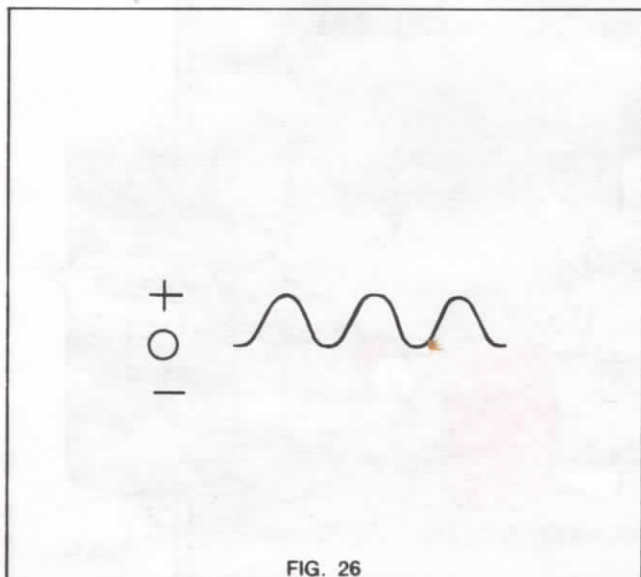

FIG. 26
- 7. Again, plug the line cord into the isolation transformer and observe the 'scope display. In the space provided, draw the display that appears on the 'scope. Your display should be similar to the illustration in Figure 26. This display shows the half-wave voltage, prior to it being doubled.